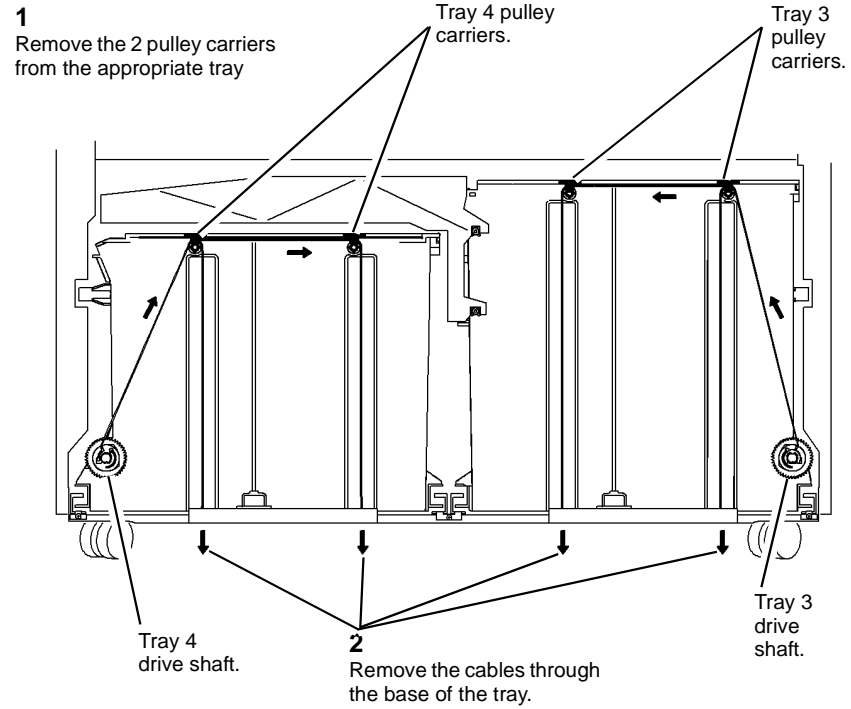

Figure 2 Front elevator cables removal
- Remove the appropriate front elevator cables, Figure 2.